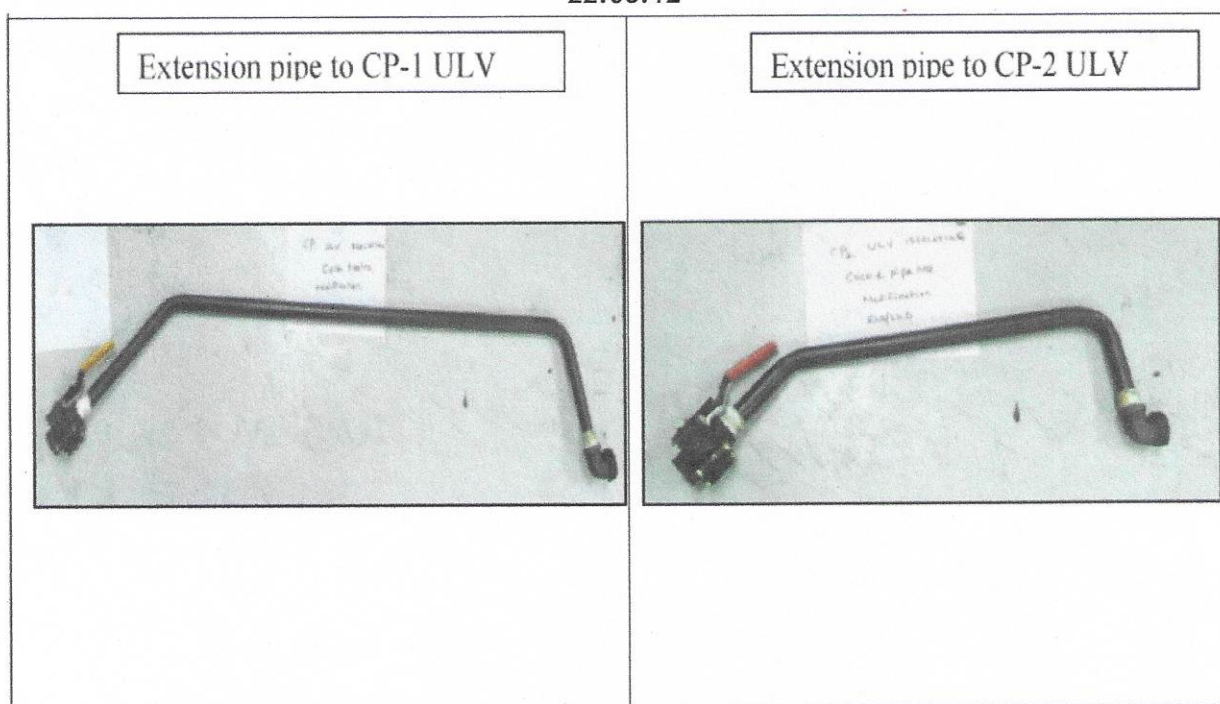

Fig.1 MS Pipes for CP1 & CP2
- Prepare the pipe (bend & thread both end), connect one end with ½ inch isolating cock and other end with elbow union (1/2 inch x ½ inch) as shown in fig.1 & 2